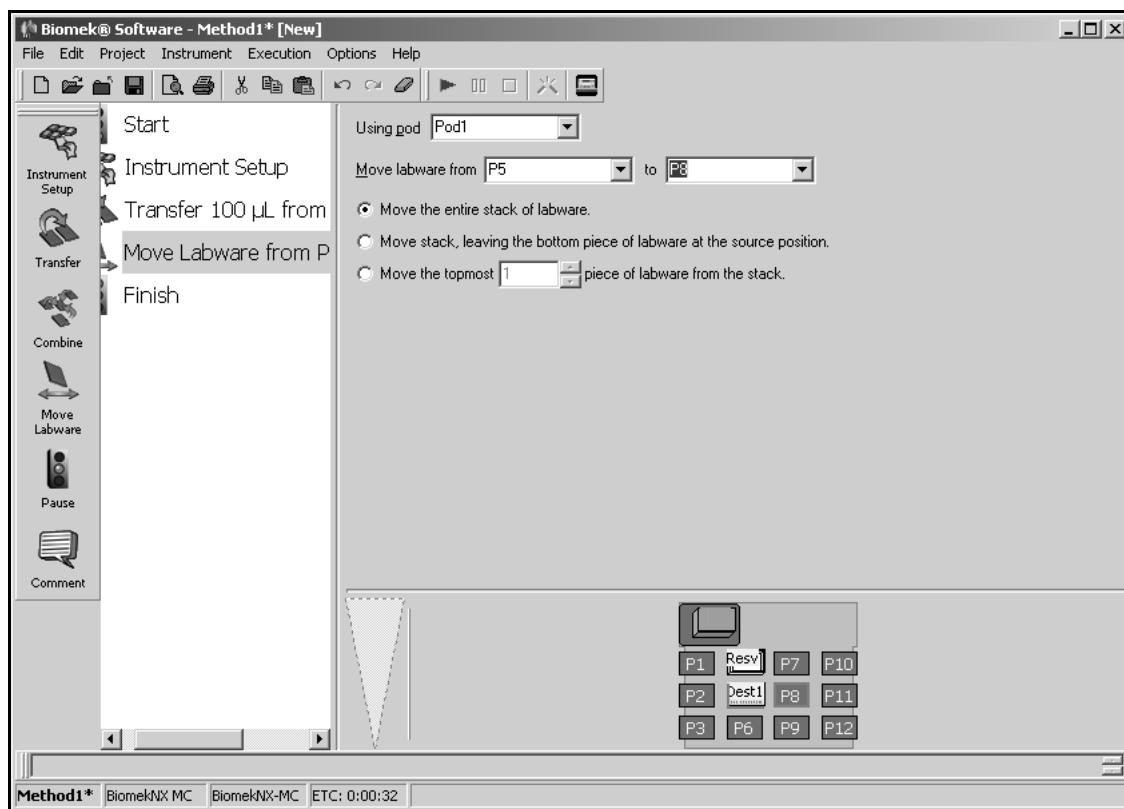

Figure 2-11. Configured Move Labware step
3. In Move labware to, select **P8** from the drop-down menu. The main editor should now look like Figure 2-11.